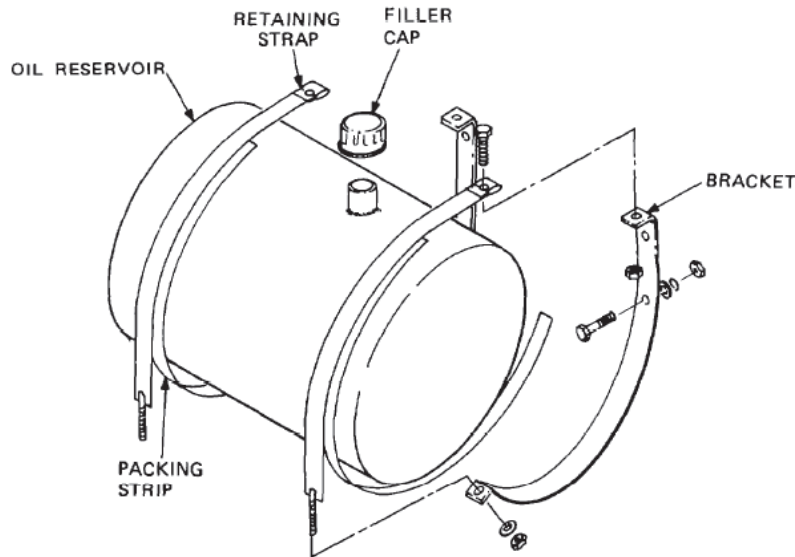

Figure 10 Oil Reservoir Removal
22. **Removal.** Remove the oil reservoir as follows (Figure 10):
24. **Installation.** Install the oil reservoir as follows (Figure 10):